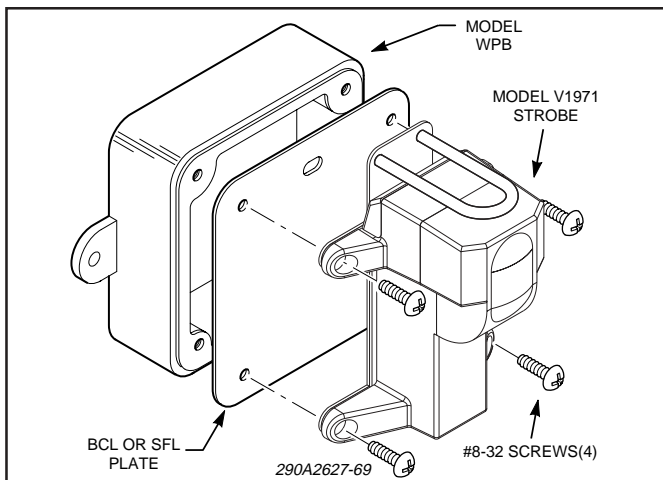

Figure 6. WPB Mounting.
4. WPB Outdoor Backbox (see figure 6).